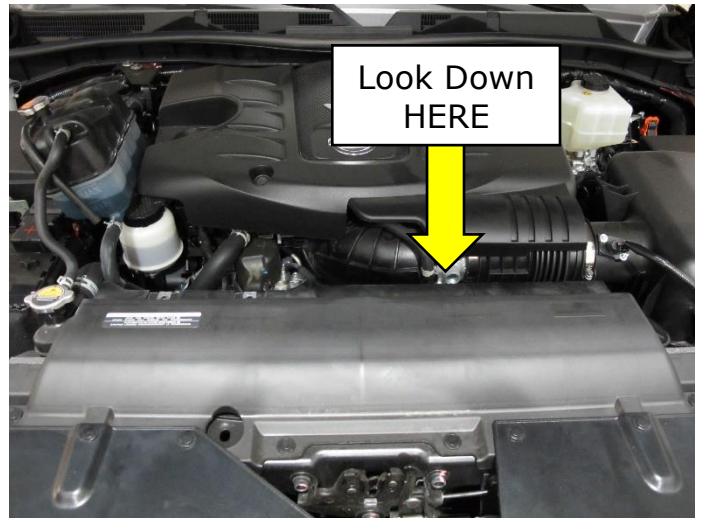

Figure 5
4. Look down at front of the engine and locate the engine fan coupling (Figures 5 and 6).